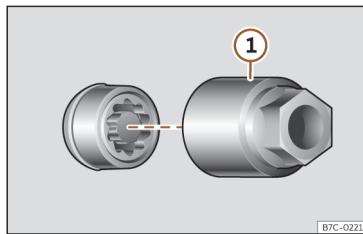

Fig. 183 Anti-theft wheel bolt with cap and adapter.
- Insert the special adapter >>> **Fig. 183** ① (vehicle tools >>> page 263) onto the anti-theft wheel bolt and push it on as far as it will go.